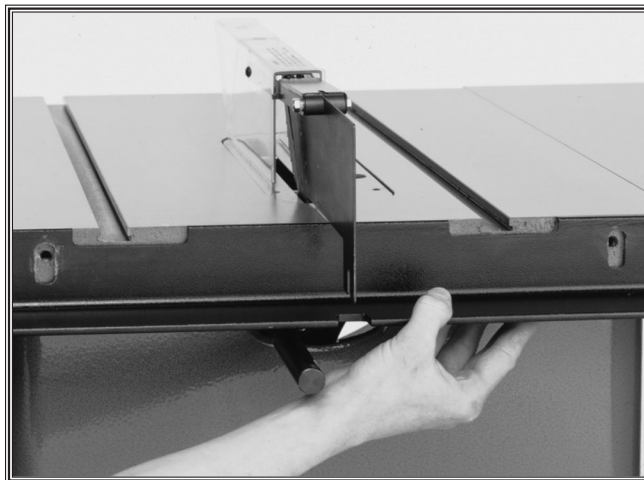

Figure 1. Attaching the back rail.
3. Position the back rail so its top edge is flush with the table top and the rectangular cut-outs are in line with the miter slots. See **Figure 1**.